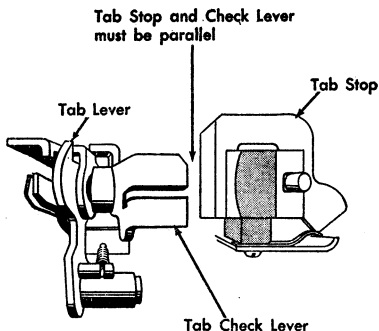

Figure 31. Tab Rack Parallel with Tab Check Lever
- b. Position the right end of the tab rack front or rear in its elongated mounting slot so that the tab check lever takes an equal bite on tab stops at both ends of the tab rack. When tightening the adjusting nuts, maintain the front face of any set tab stop parallel to the tip of the tab check lever (Figure 31), and at the same time be sure that the carriage end plates are not sprung.